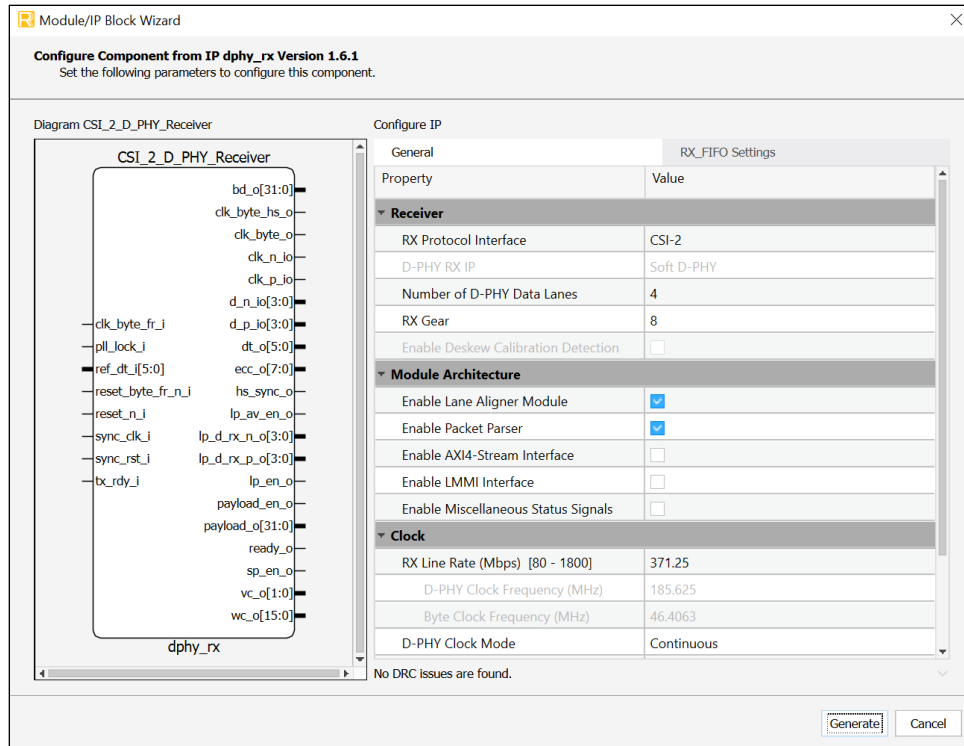

Figure 4.5. Module/IP Block Wizard of dphy_rx IP
6. Select the desired parameters from the opened DPHY_RX IP GUI as shown in Figure 4.5.